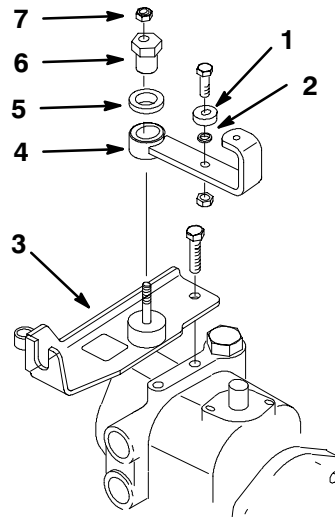

Figure 4
11. With new M8-1.25x25 capscrew, re-install ball bearing and new bearing spacer to neutral arm with existing nut (Fig. 4).
12. Mount new cable support to pump with (2) 3/8-16 x 3/4" lg. capscrews (Fig. 4).
13. Reinstall neutral arm to new cable support with thrust washer, traction stud and locknut previously removed (Fig. 4).